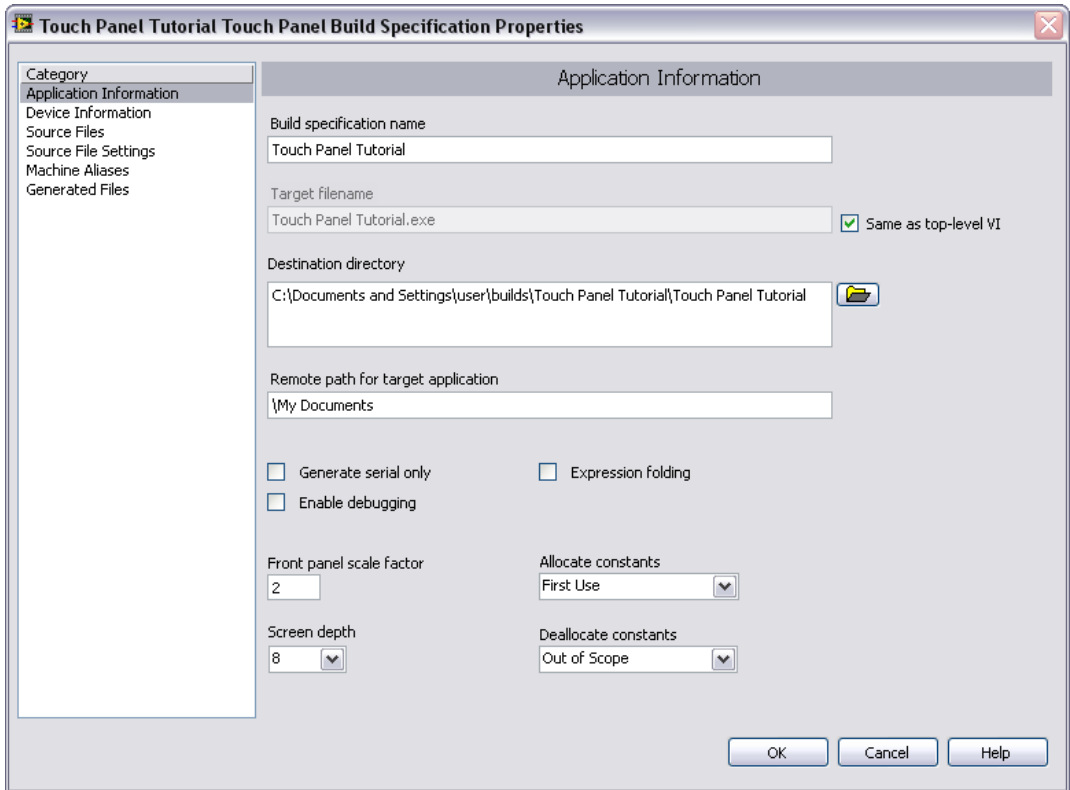

Figure 5. Defining the Touch Panel Application Information
1. Define the settings for the Touch Panel application, as shown in Figure 5.